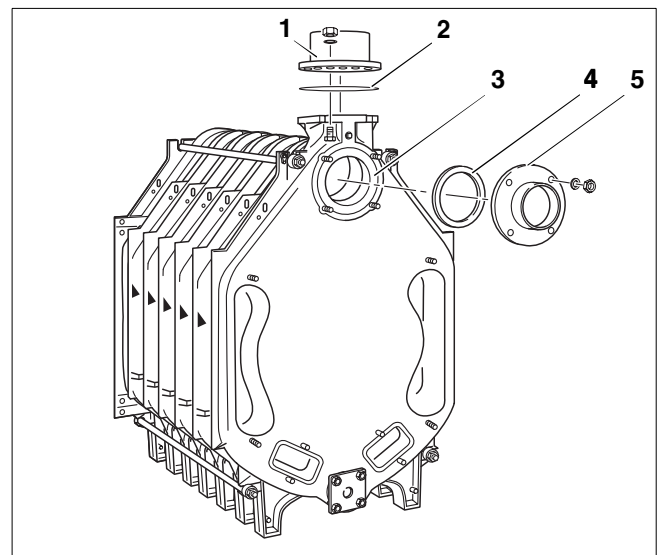

Fig. 25 Assembly – Fitting connecting flanges
- Fit the weld neck flange (with a section of pipe welded into it) to the top nipple port (Fig. 25, **ref. 3** – return connection) to allow the return connection to be made later on. The weld neck flange and its gasket are seen in the illustration (Fig. 25, **ref. 4 and 5**).
- Fit the flow connection flange (Fig. 25, **ref. 1**) and gasket (Fig. 25, **ref. 2**) to allow the flow connection to be made later on.